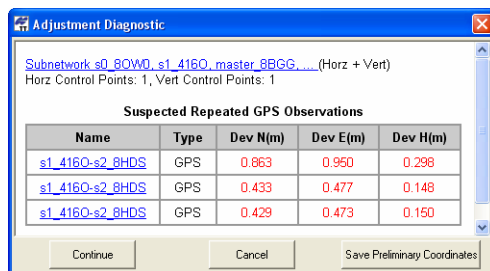

Figure 6-16. Messages After Analysis of the Repeated GPS Observation
- A failed test is where the difference is more than the values set in the *Job Configuration* dialog box. The network adjustment process will be interrupted and the *Adjustment Diagnostic* dialog box will display (Figure 6-16).